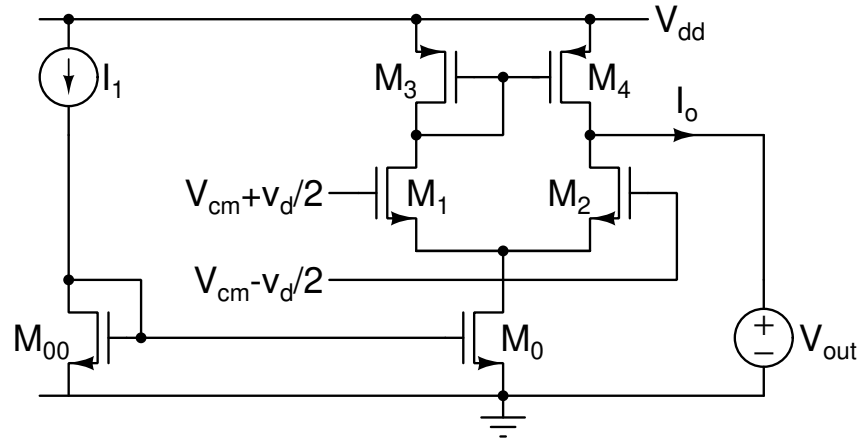

Figure 3.4: Problem 3.4.
3.4. Fig. 3.4 shows a differential pair. All transistors are in the saturation region. $M_{00,0}$, $M_{1,2}$, and $M_{3,4}$ are matched pairs. Determine the following: